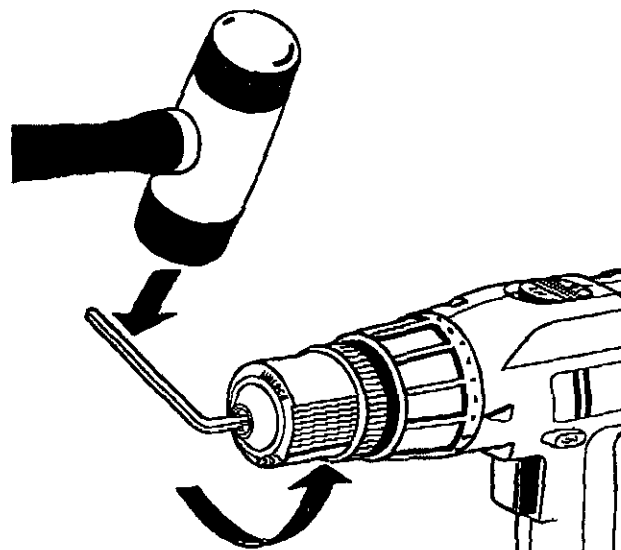

Fig. 15
- Insert hex key wrench in chuck and tighten chuck jaws securely. Tap sharply with a mallet in a counterclockwise direction. This will loosen chuck on the spindle. It can now be unscrewed by hand. See Figure 15.